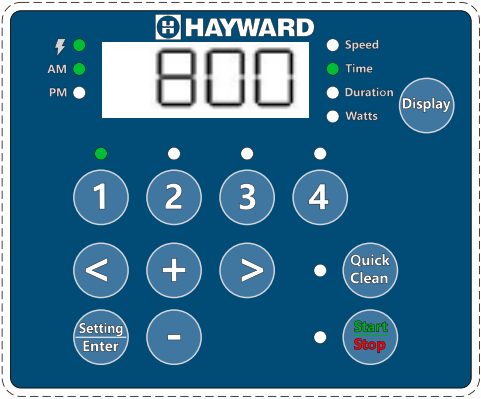

Figure 4
4. Press “1”. The SPEED 1 start time will display. The “Time” parameter LED will begin to blink. **See Figure 4.**